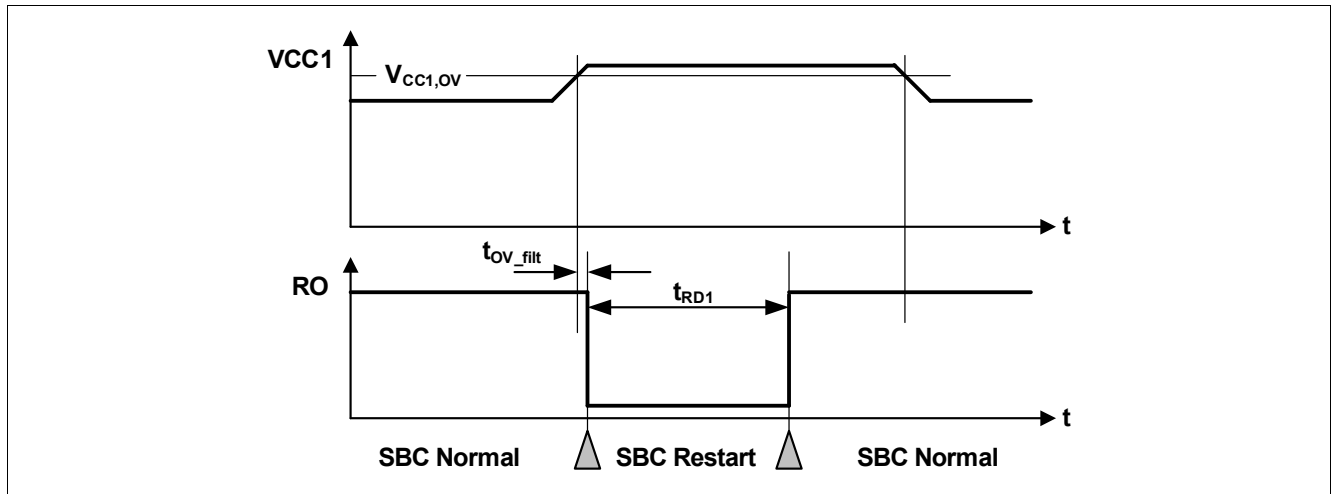

Figure 59 VCC1 Over Voltage Timing Diagram
- If the bit **VCC1_OV_RST** is set and **CFG_P** = '1', then SBC Restart Mode is entered. The FOx outputs are activated. After the reset delay time (t_{RD1}), the SBC Restart Mode is left and SBC Normal Mode is resumed even if the VCC1 over voltage event is still present (see also Figure 59). The **VCC1_OV_RST** bit is cleared automatically;